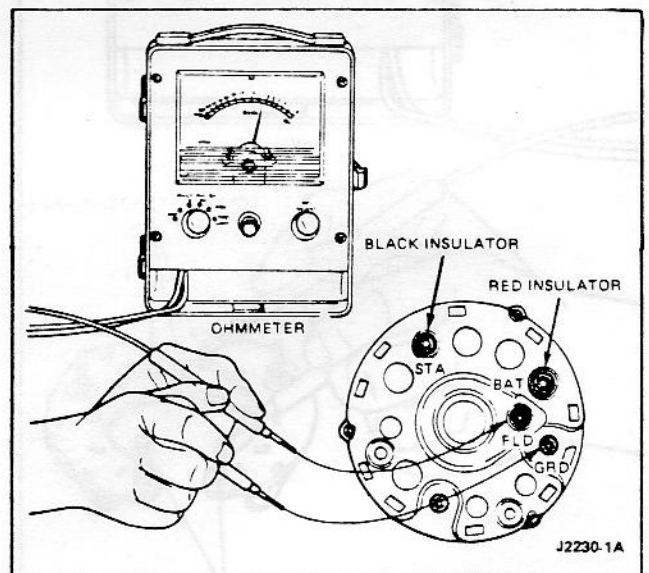

Fig. 9 - Field Open or Short Circuit Test
1. Contact the alternator field terminal with one probe and the ground terminal with the other probe (Fig. 9). Then, spin the alternator pulley. The ohmmeter reading should be between 2.4 and 100 ohms and should fluctuate while the pulley is turning.